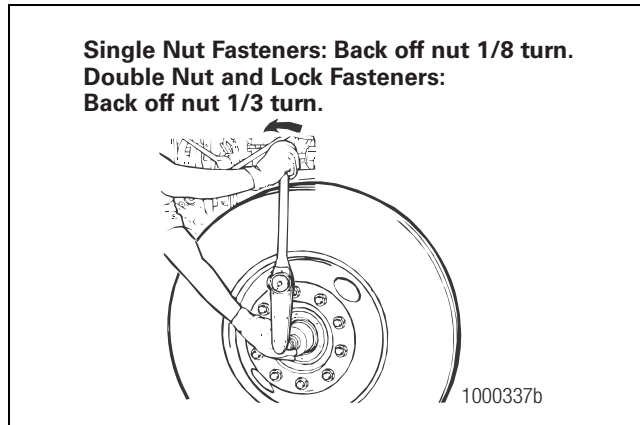

Figure 7.6
- A. Back off the adjusting nut 1/8 turn. Figure 7.6.
- A. Back off the adjusting nut. Figure 7.6.